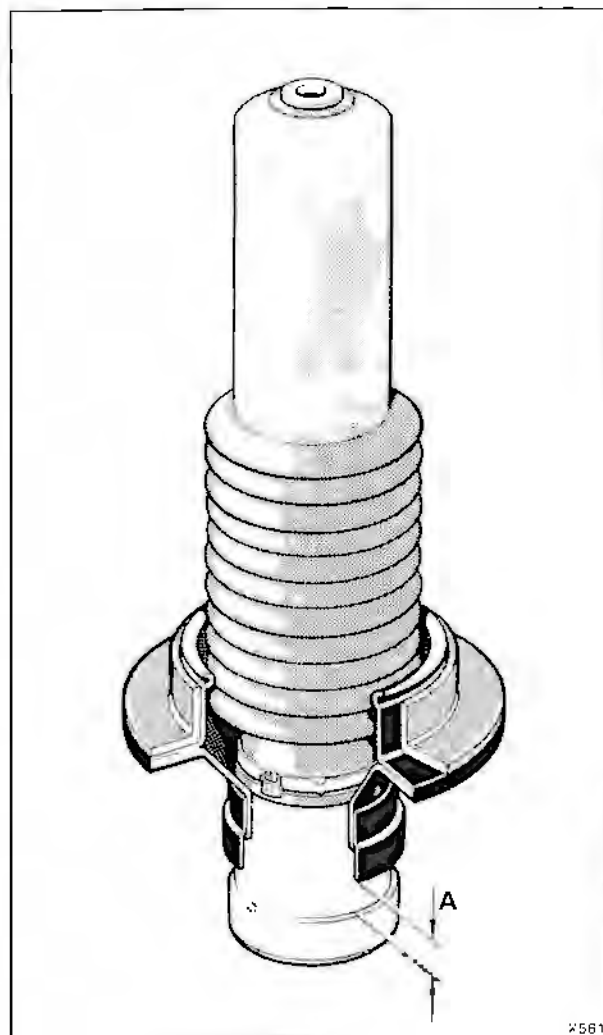

Fig. H4-4 Spring support plate, collar, and sleeve assembly
2. Insert the support collar through the spring support plate. Fit the convoluted cover onto the neck of the collar together with a securing band. Ensure that a distance of 19 mm (0.750 in) exists between the collar and the bottom face of the support (see fig. H4-4). Fasten the cover to the collar with the securing clip using tool RH9733.